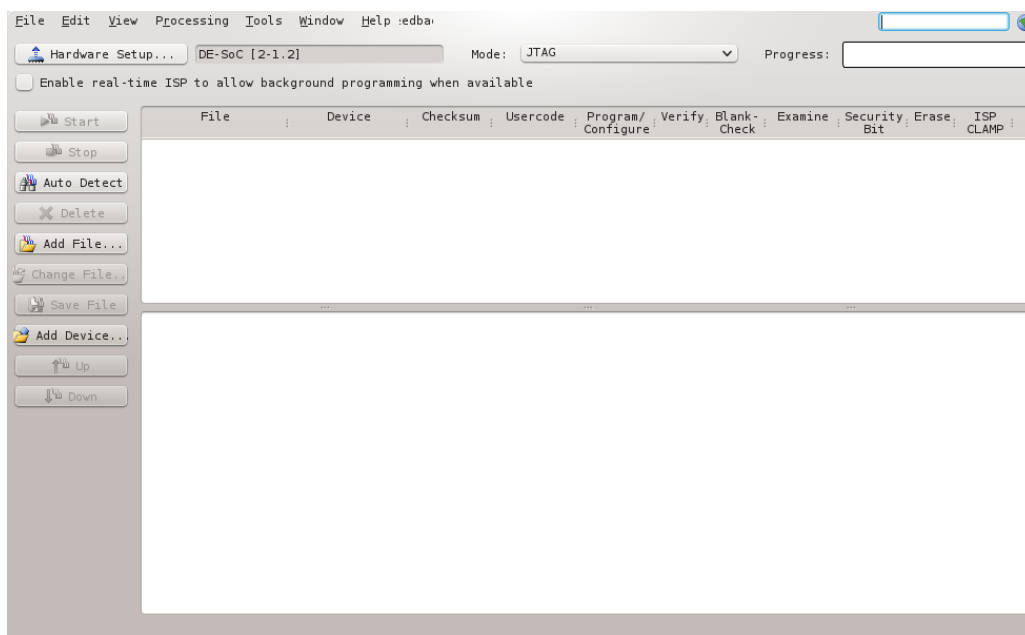
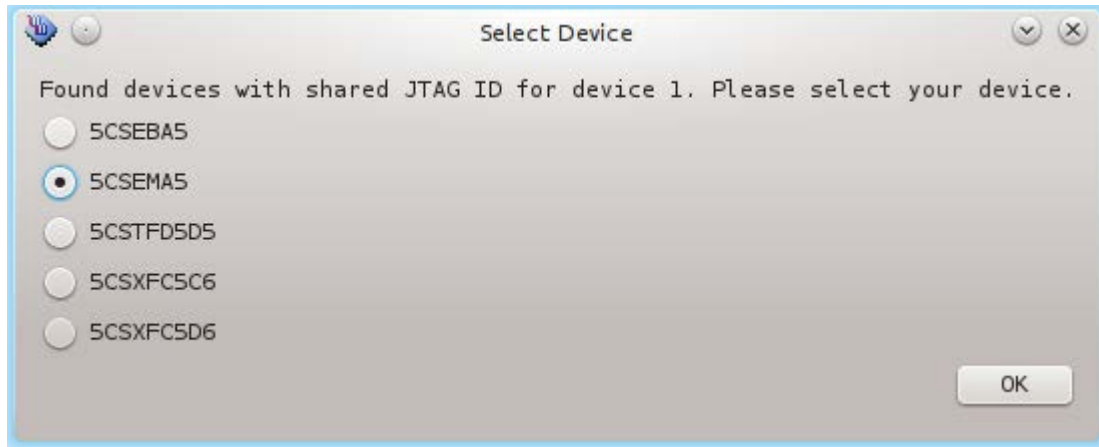

Figure 9-20. Quartus Prime Programmer
Figure 9-21. FPGA Selection
45. Choose the “Auto Detect” button on the left of Figure 9-20, then choose “5CSEMA5”, as shown in Figure 9-21.